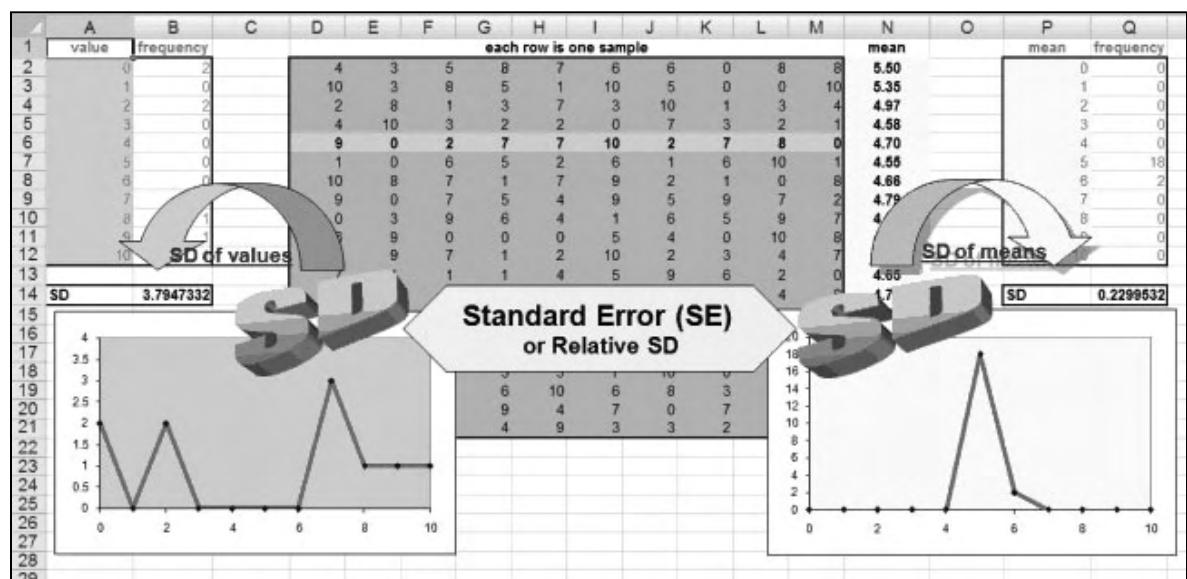

Figure: 5.4
Figure 5.4 brings us closer to the central issue. It shows two frequency distributions: The one on the left is for frequencies of values (as found in sample 5, for instance); it is called a **sample distribution**. The distribution on the right is for frequencies of means (all samples taken together), and it is called a **sampling distribution**. In statistics, the normal distribution curve is the graph on the right. Basically, research is about the graph on the left, and statistics is about the graph on the right.
Another key concept in this context is standard deviation (SD); the standard deviation is a measure of how widely values are dispersed from their mean. Figure 5.4 calculates the standard deviation twice (in row 14): The left one is the SD of observations; the right one is the standard deviation of means. How are these two SDs related? The SD of means is always smaller than the SD of observations; the SD of means decreases with increasing sample size.